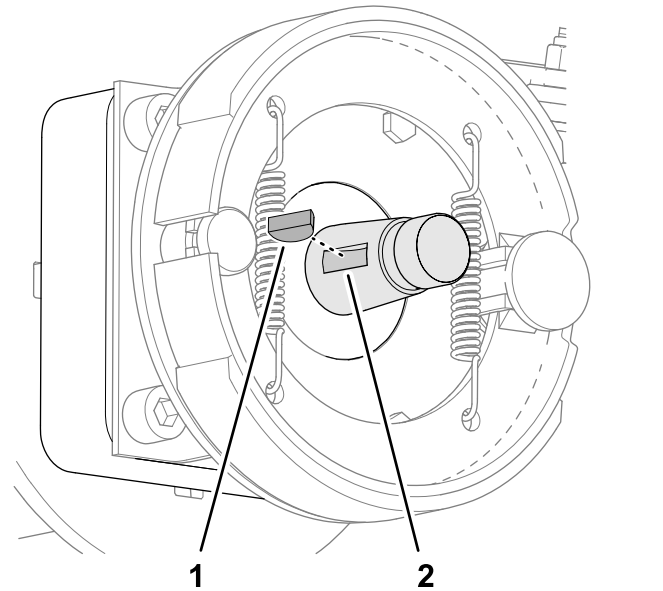

Figure 66
5. Remove woodruff key from the wheel-motor shaft (Figure 66).